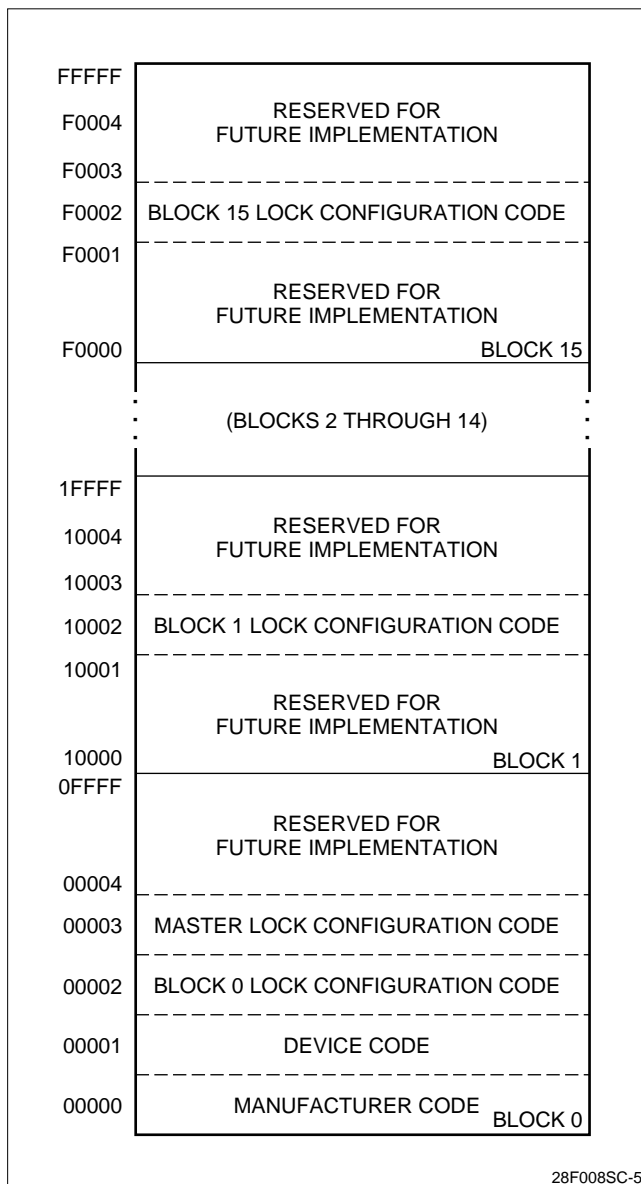

Figure 5. Device Identifier Code Memory Map
The LH28F008SC is a high-performance 8M Smart-Voltage FlashFile memory organized as 1M of 8 bits. The 1M of data is arranged in sixteen 64K blocks which are individually erasable, lockable, and unlockable in-system. The memory map is shown in Figure 5.
The read identifier codes operation outputs the manufacturer code, device code, block lock configuration codes for each block, and the master lock configuration code (see Figure 5). Using the manufacturer and device codes, the system CPU can automatically match the device with its proper algorithms. The block lock and master lock configuration codes identify locked and unlocked blocks and master lock-bit setting.
IA = Identifier Code Address: see Figure 5.
The identifier code operation is initiated by writing the Read Identifier Codes command. Following the command write, read cycles from addresses shown in Figure 5 retrieve the manufacturer, device, block lock configuration and master lock configuration codes (see Identifier Code Table for code values). To terminate the operation, write another valid command. Like the Read Array command, the Read Identifier Codes command functions independently of the V_{PP} and \overline{RP} can be V_{IH} or V_{HH} . Following the Read Identifier Codes command, the following information can be read:
- X selects the specific block lock configuration code to be read. See Figure 5 for the device identifier code memory map.